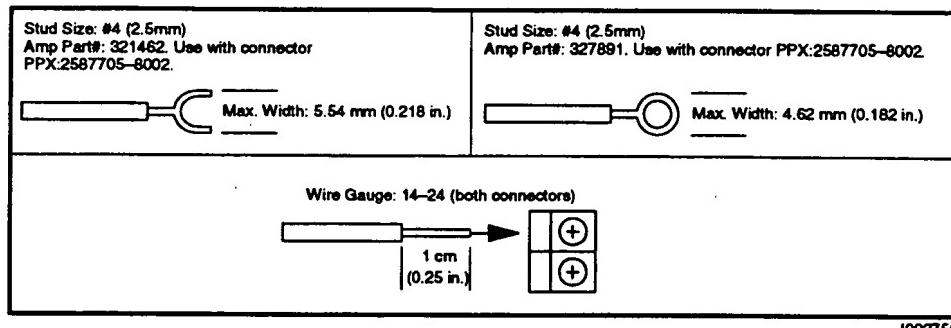

Figure 2-3 Wire Gauge and Stud Sizes
1. Strip back the insulation on the wires 0.25" or 1.0 cm. Use a 14–24 AWG or 0.18–1.5 mm2 wire, either stranded or solid-type. You may attach a spade or a ring lug (amp 34141) to the end of the wire if allowed by the connector type. Refer to Figure 2-3.